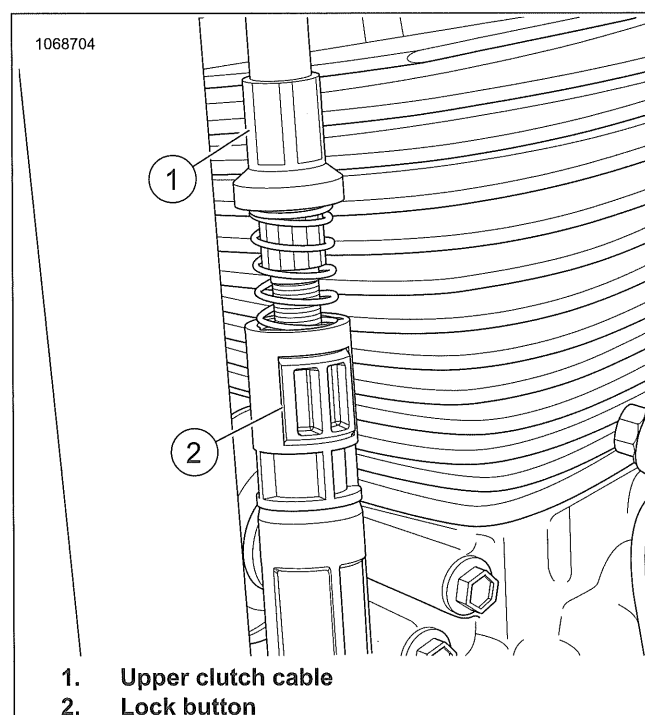

Figure 2-25. Lock Button
2. See Figure 2-25. Identify upper clutch cable (1) and red lock button (2).